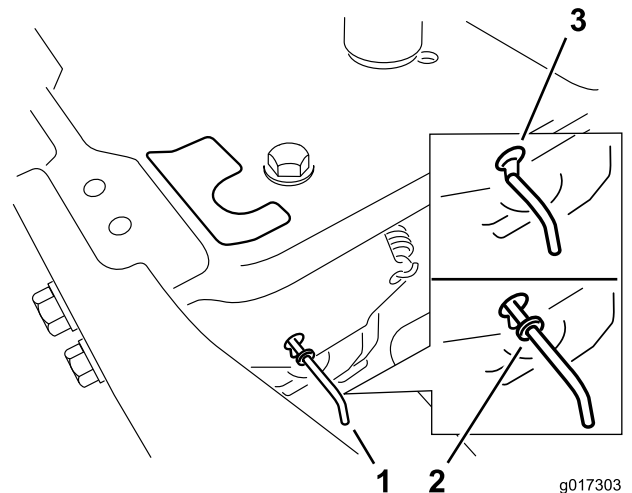

Figure 17
4. Move the bypass levers forward through the key hole and down to lock them in place (Figure 17).
Move the bypass levers rearward through the key hole and down to lock them in place as shown in Figure 17.